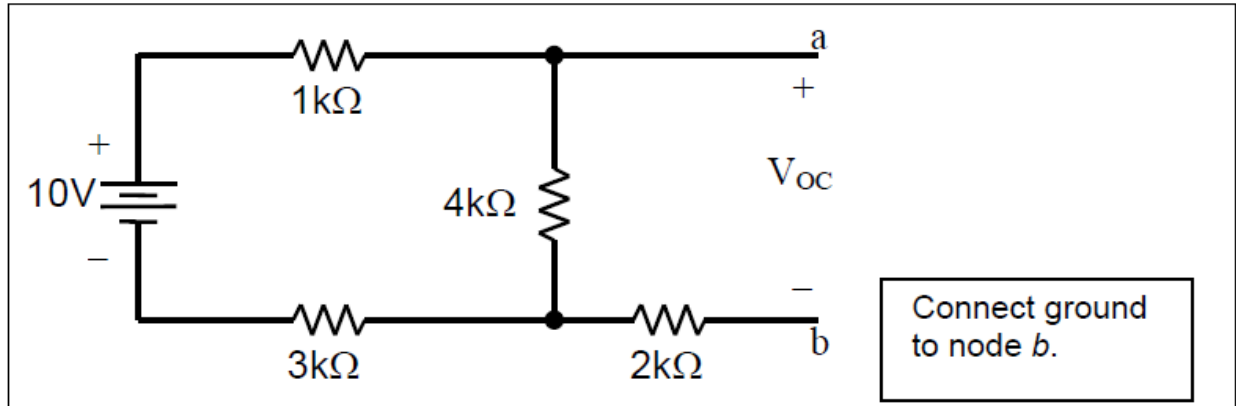

Fig 5.10: Example 5.2.
- For the circuit in figure 5.10, find the short circuit current by placing a resistor between nodes a and b whose resistance is much smaller than the resistance of the other resistors in the circuit.
- For the circuit in figure 5.10, a $10^{12}\Omega$ resistor between nodes a and b will be sufficient in simulating an open circuit.